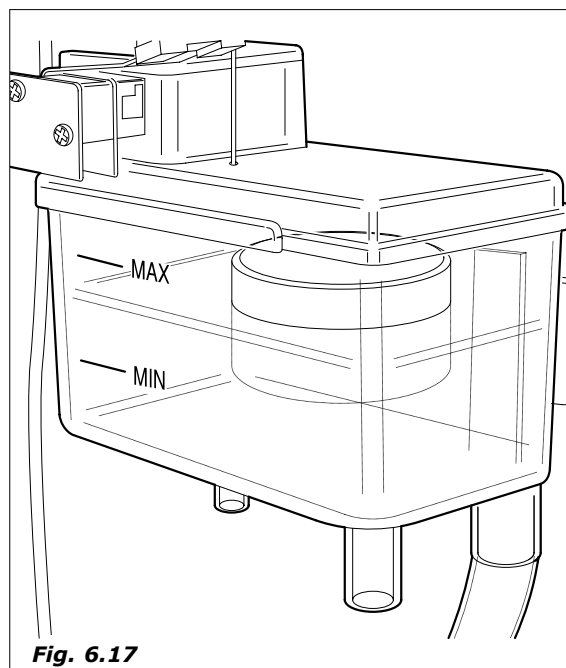

Fig. 6.17
- when the level set by the floater is reached inside the water reservoir, (Fig. 6.17) the following parts will start operating and i.e.: the cup turret will start to be filled and the coffee group will start and make a test run.